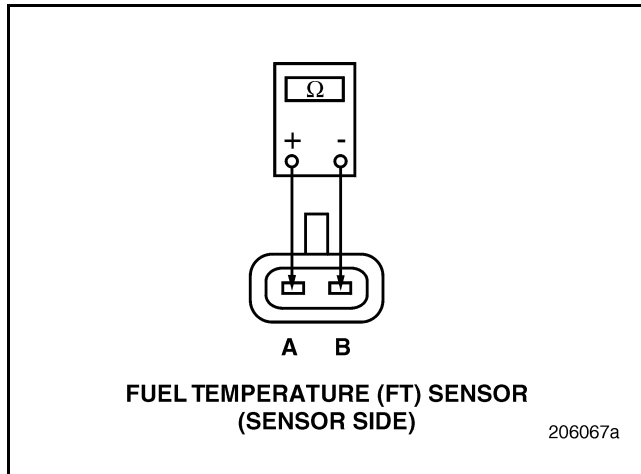

Figure 58
3. Measure the resistance across the pins of the FT Sensor with the fuel temperature between 32° and 194°F (0° and 90°C) (see Figure 58).